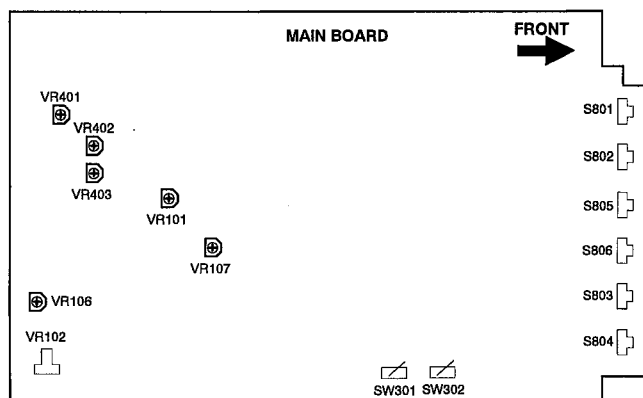

Figure 4-1 Location of on Mainboard & Neckboard
1. Input a cross hatch pattern in 68.68kHz (1152X870) mode and adjust VR101 on the main board (see figure 4-1 for approximate location) so the high voltage is in the range $27kV \pm 0.1$.
VR102 (see Figure 4-1 for approximate location) so that the voltage of G1 read on a digital multimeter is $-12V \pm 1$.
3. Before carrying out white balance adjustment, make sure that the VR106 (see Figure 4-1 for approximate location) position shall be turn counterclockwise to the end (ABL no action).
4. Before carrying out white balance adjustment, make sure that the internal contrast VR107 (see Figure 4-1 for approximate location) shall be turn to the center position.
- a) Input a cross hatch pattern in primary mode. Adjust RCV (see Figure 4-1 for approximate location) get the color convergence of vertical line is in the most excellent way.
- b) Input a cross hatch pattern in primary mode. Adjust VR403 (see Figure 4-1 for approximate location) get the color convergence of center horizontal line is in the most excellent way.
- c) Input a cross hatch pattern in primary mode. Adjust VR402 and VR401 (see Figure 4-1 for approximate location) get the color conver-